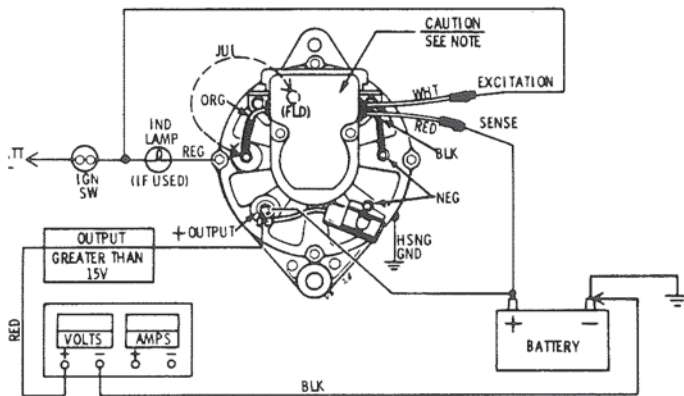

Figure 4. Regulator Test.
1. After hook-up is made and test leads connected, add an insulated jumper (A) from alternator regulator terminal to field terminal. Figure 4. Remove regulator screws to add jumper. Mount regulator to alternator with two (2) screws for test.